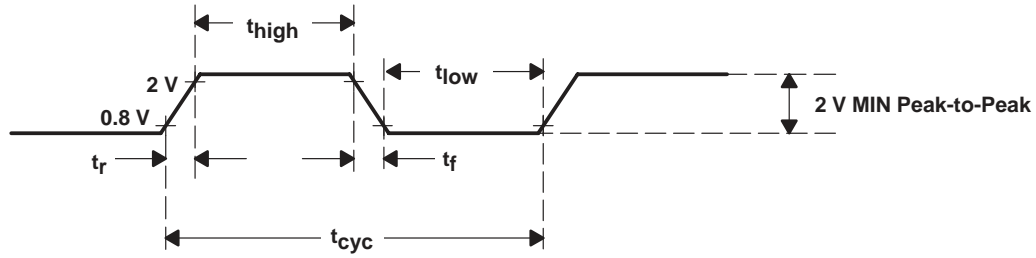
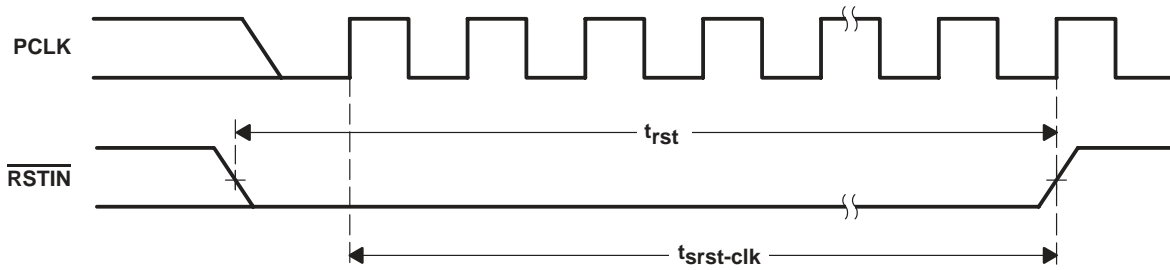

Figure 24. PCLK Timing Waveform
Figure 25.  $\overline{RSTIN}$  Timing Waveforms
**PCI clock/reset timing requirements over recommended ranges of supply voltage and operating free-air temperature** (see Figure 24 and Figure 25)